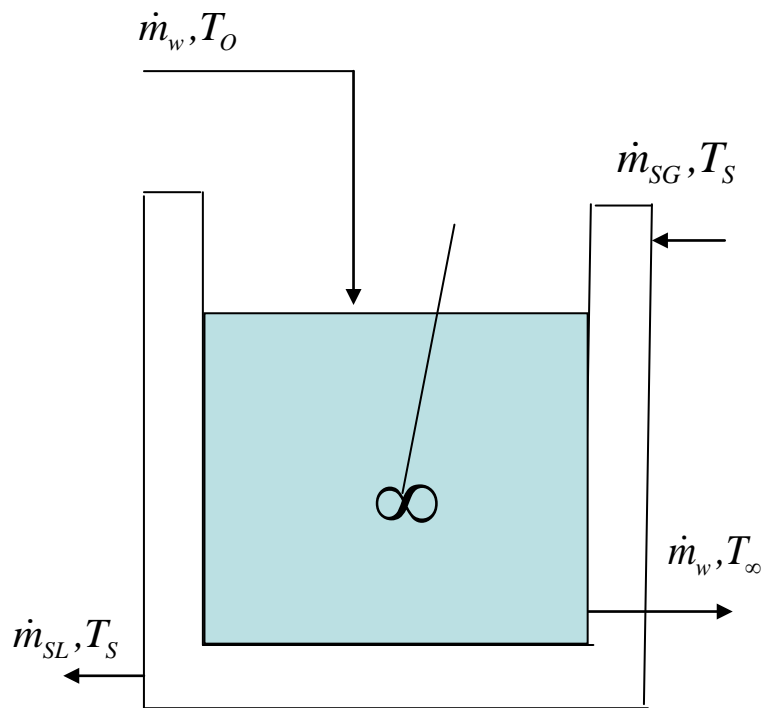
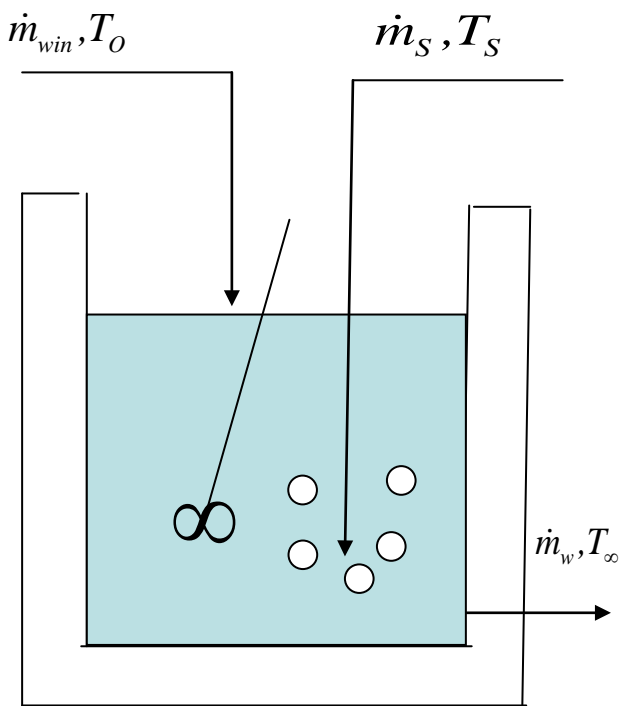

Figure 2A Steady Indirect Heating of Water (steam cladding). All steam condenses in the cladding chest.
Figure 2B. Steady Direct Heating of Water (DSI). Vapor bubbles completely condense and the cladding chest is not used.
Recently, Sutter and Heaters touted the advantages of direct steam injection (DSI) for providing a continuous (steady) supply of hot water (P. Sutter, P Heaters, "Producing Hot Water by Direct Steam Injection," Chemical Engineering Progress, 48-51, May 2010). The alternative is to heat water by indirect steam heating as in a cladded vessel. Figures 2A (indirect heating) and 2B (direct heating) illustrate the two methods. A fixed, steady supply of hot water at mass flow rate \dot{m}_w and temperature T_∞ is desired. With indirect heating in Figure 2A, steam heats the water externally by condensing in the steam chest. Conversely, with direct heating in Figure 2B, inlet steam is mixed directly into the heated water. Assume in both Figures 2A and 2B that steam is completely condensed and that the water heat capacity, \hat{C}_{pw} is constant. Assume also
- (10) e. List disadvantages of the direct method as pictured in Figure 2B.